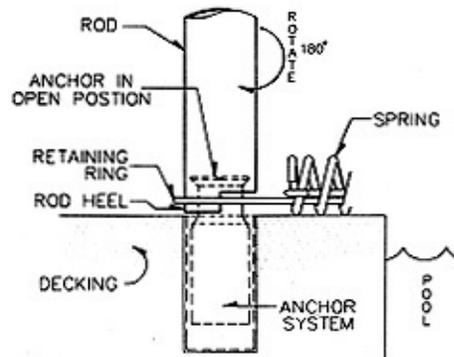

Figure 3
- b. Pressing downward, rotate rod 180 degrees so that heel of rod is between anchor bolt and retaining ring (see Figure 3 below)